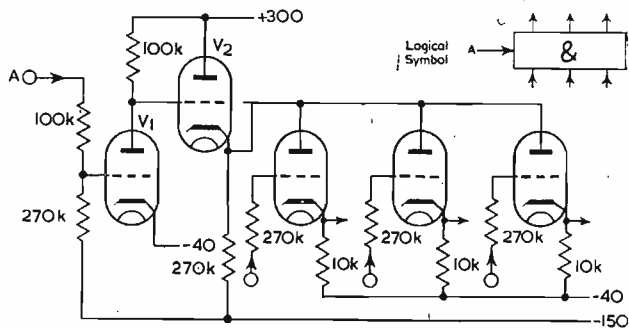

Fig. 2. Block AND gate
The parallel AND or "block AND" is illustrated in Fig. 2. It is shown with only one control voltage (A) but quite obviously it is easily adapted for multiple control lines. When a signal arrives at A, V_1 is cut off, V_2 conducts, the remaining valves, or output valves, behaving rather like cathode followers, transmitting signals to the outputs. It is apparent that the normal state of the output is the "1" state but this does not introduce any difficulties.